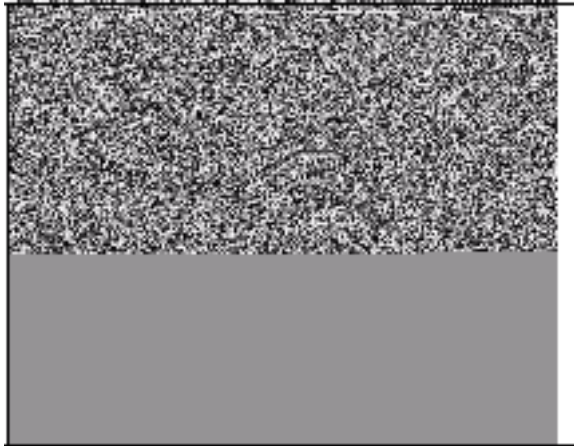

Fig. 122
Place float bowl (B) on carburetor with drain boss parallel (C) to fuel inlet fitting ([D] Fig. 122).
Install new float bowl washer (E). Torque bowl screw ([F] Fig. 122) to values listed.